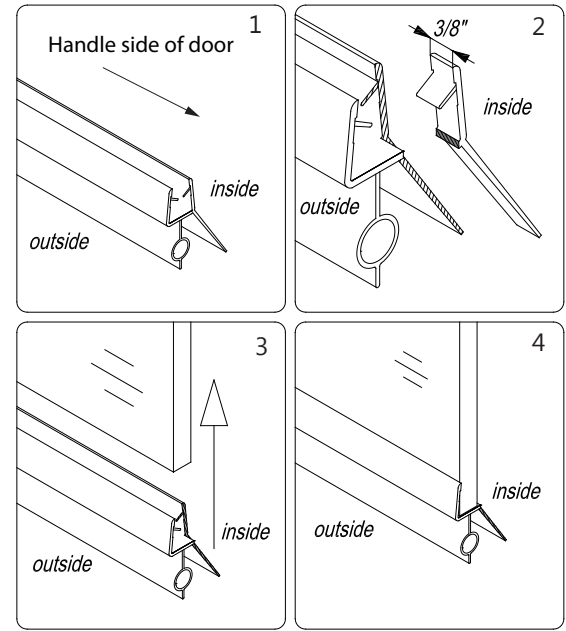

Fig 12
**11.** Measure the bottom of the **Glass door (#01)** from end to end to determine the actual width of the door. Cut the **Bottom anti-water strip (#07)** to the size of your measurement and notch  $\frac{3}{8}$ " of the inner side of the **Bottom anti-water strip (#07)** as shown in Fig 12. Press the **Bottom Anti-water strip (#07)** onto the bottom edge of the **Glass door (#01)**.
See Fig. 12 for details